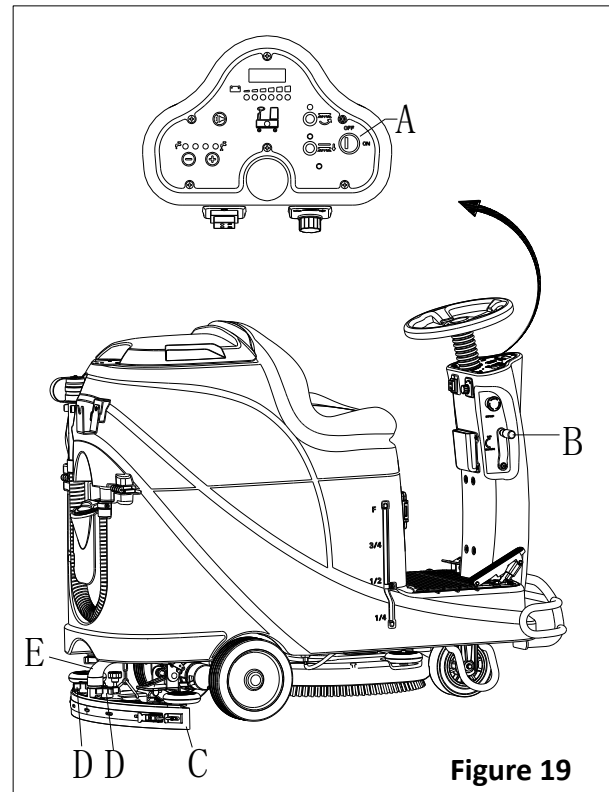
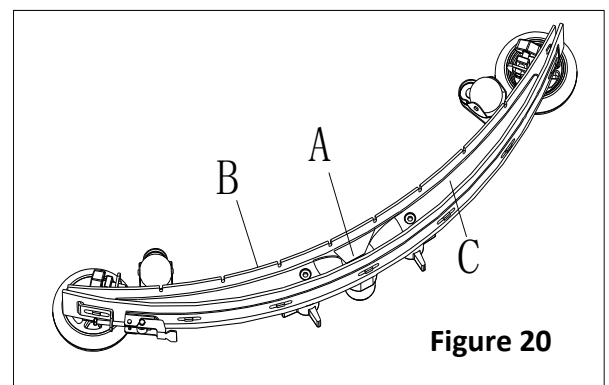

Figure 19
Figure 20
2. Turn the key switch (A, Figure 19) to "OFF".
3. Lower the squeegee (B) with the lever (C).
4. Loosen the knobs (D) and remove the squeegee.
5. Disconnect the vacuum hose (E) from the squeegee.
6. Clean the steel or aluminum squeegee, especially the compartments (A, Figure 20) and the holes (B). Check the integrity, cuts and tears of the front blade (B) and rear blade (C), if necessary, replace them according to procedures in the following paragraph.